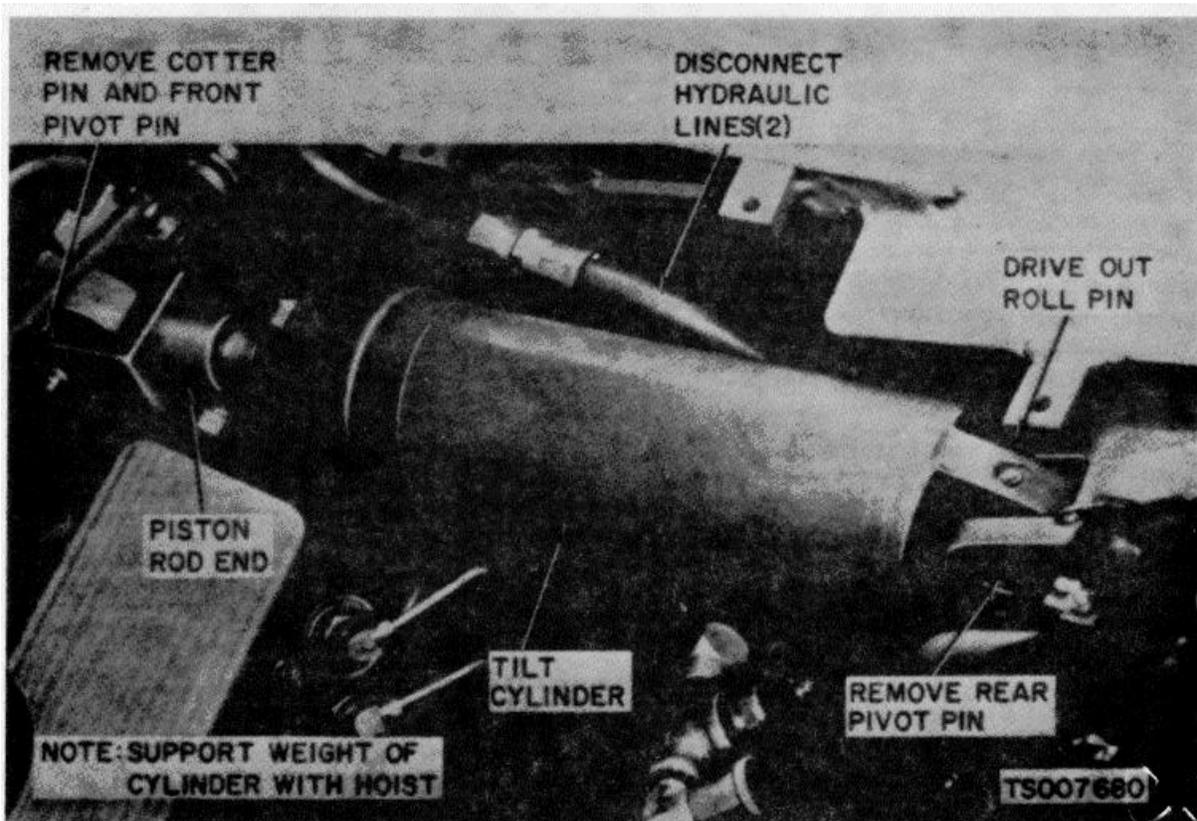

Figure 4-7. Tilt Cylinder, Removal and Installation
- (1) Lower the carriage to the floor. Secure the mast to the overhead guard to prevent the mast from tipping when hydraulic pressure is relieved.
- (2) Remove the floor plate.
- (3) Place a drain pan under the tilt cylinder. Disconnect the two hydraulic hoses from the tilt cylinder and allow the cylinder and hoses to drain.
- (4) Remove the tilt cylinder as shown in figure 4-7.
(1) Install the tilt cylinder as shown in figure 4-7.
(2) With the engine at fast idle, operate the tilt lever until mast is tilted fully to the rear.
(3) Check degree of rear tilt; this should not exceed 10°. If degree of tilt is not 10°, reposition front rod end to obtain 10°back tilt.
(4) Visually check to see that both sides of mast move back and forth the same distance.